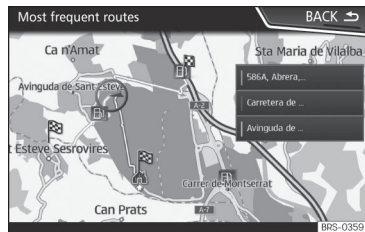

Fig. 186 Predictive navigation
- On the main screen of the Navigation menu, in the pop-up window, press the **FREQUENT ROUTES** button. To display frequently followed routes press the **Show on map** button »» Fig. 186.